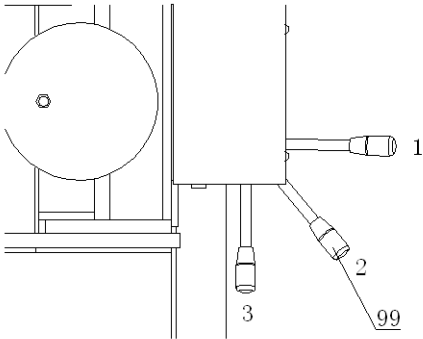

Figure 8
Turn the handle lever of selector valve to position 2. (refer to fig. 8)
Turn the handle lever (99) of socket valve to position 3 (refer to fig 8), and check if the ram is working properly; If the ram working properly, air purge is finished, if not, repeat the process 15.1.1~15.1.2.
Turn the handle lever (99) of socket valve to position 3 (refer to fig. 8), and check if the ram is working properly; If the ram is working properly, air purge is finished, if not, repeat the process 15.2.1~15.2.2.
Turn the handle lever (99) of selector valve to position 2 (fig.8), then depress the air foot valve (P54), keeping the air motor working no less than two minutes.
Turn the handle lever (99) to position 3 (fig. 8), then depress the air foot valve (54), keeping the air motor working and check if the ram is working properly. If the ram is working properly, air purge is finished, if not, repeat the process 15.3.1~15.3.2.
Turn the handle lever (99) of socket valve to position 3. (fig. 8)
Turn the handle lever (99) of socket valve to position 1. (fig. 8)
Turn the handle lever (99) of selector valve to position 3, then depress the air foot valve (P54), both air motors will operate simultaneously, and the piston rod will extend quickly. When the serrated saddle gets close to the work piece, change to manual operation. (*fig. 8 and 9*)